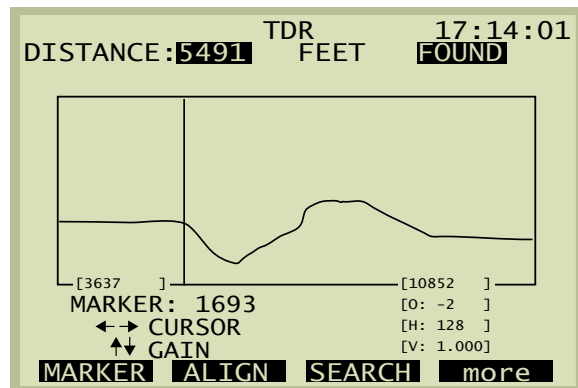

Figure 10 TDR screen, fault found
7. When a fault is found, it appears on the screen. FOUND is displayed at the top right. Refer to Figure 10. The cursor automatically jumps to the beginning of the fault. The DISTANCE reading at top provides the distance to the cursor's position- thus, the distance to the fault.
8. The fault found in Figure 10 represents a bridge tap. We can use the TDR to determine the length of the lateral, if necessary. To measure the length: